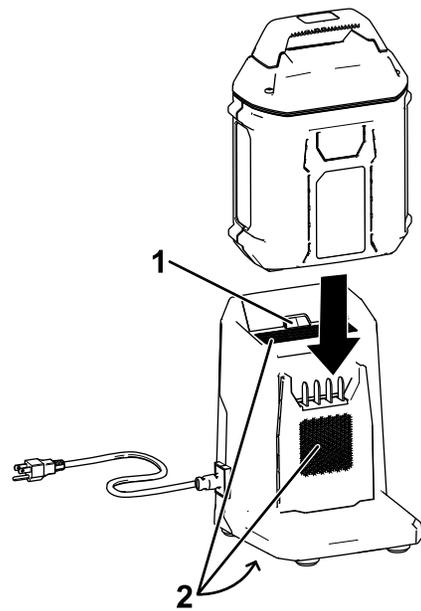

**Figure 2**
2. Line up the cavity in the battery pack (Figure 2) with the tongue on the charger.